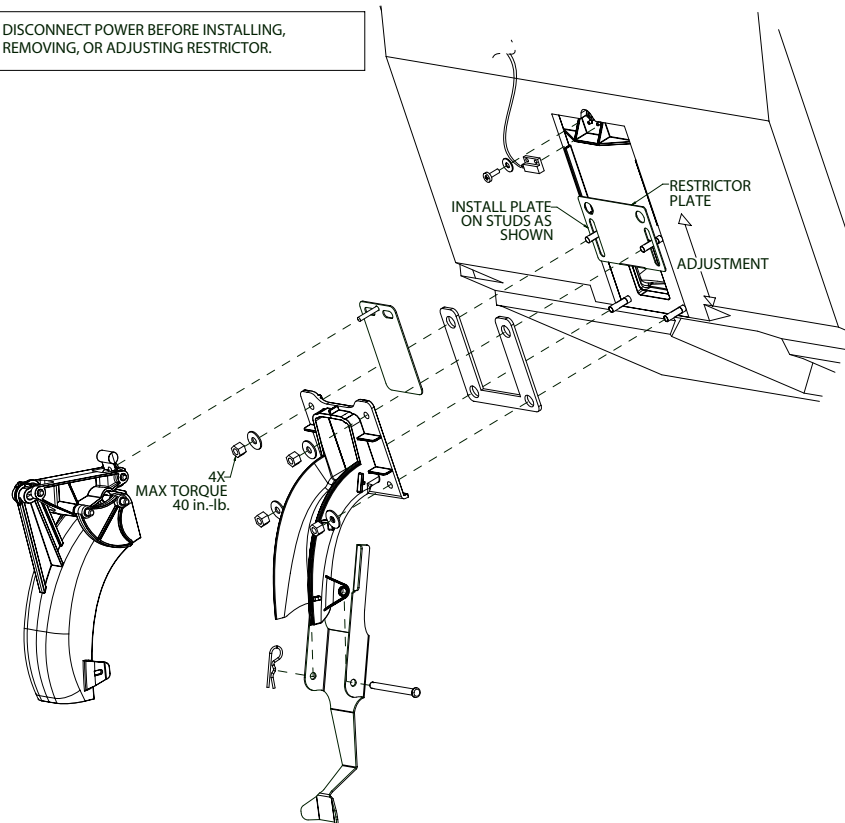

FIGURE 1. Gate Restrictor Plate
The rate at which ice is dispensed can be adjusted by varying the opening of the gate restrictor plate as illustrated in FIGURE 1. Reducing the dispense rate of ice is especially desirable when using glasses or other containers with small openings. To adjust the gate restrictor plate, loosen the (4) nuts that hold the ice chute assembly to the bin. The restrictor plate can now be moved up or down. When the restrictor plate is fully up, the ice gate opening is 2-1/2" in height, and the maximum rate of ice dispense is available (approximately 3 oz/sec). Retighten the (4) nuts to set the desired restrictor plate opening. **DO NOT EXCEED 40 IN-LB of torque.**